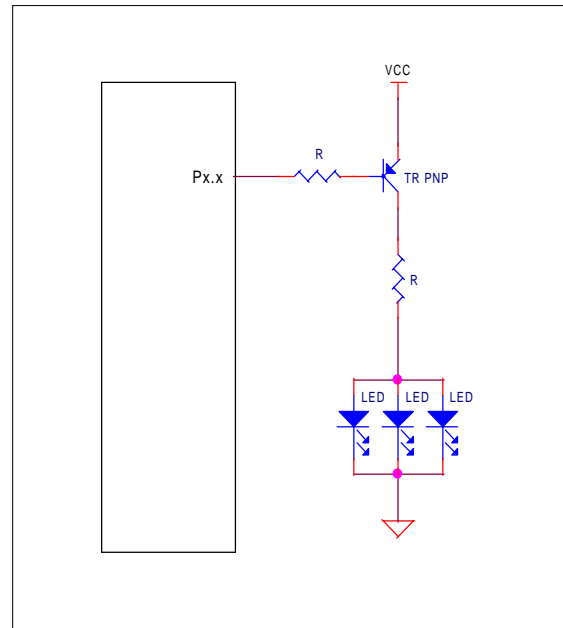

Figure 3.4 Use low output PNP Tr.
3. Use PNP Transistor of 'Active Low' as shown in figure 3.4.